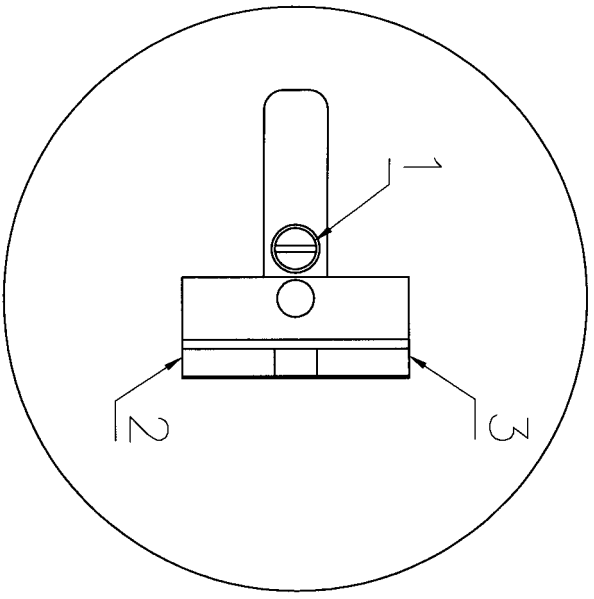

FIG. 4
4. Sighting adjustment (Fig. 4)